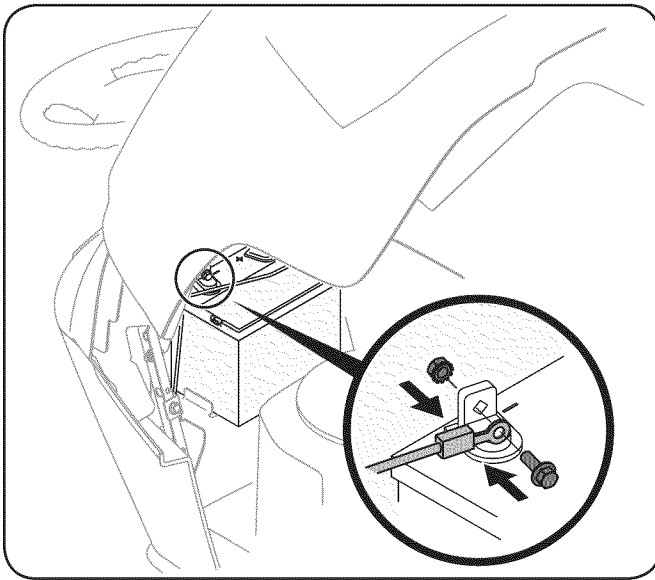

Figure 3-3
2. Remove the black plastic cover, if present, from the negative battery terminal and attach the negative cable to the negative battery terminal (-) with the bolt and hex nut. See Fig. 3-3.